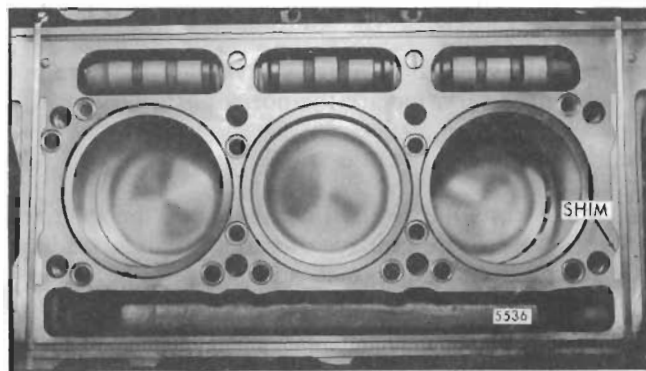

Fig. 9 - Cylinder Head Support Shims in Place
- b. To prevent end cylinder head bolt breakage, support shims (Fig. 9) are attached at each end of the cylinder block (two per cylinder bank). Remove the adhesive paper and place the support shims, adhesive side down, in position at each end of the cylinder block.
IMPORTANT: The scallop in the shim placed at the rear of the block must be at the oil supply hole (Fig. 9).